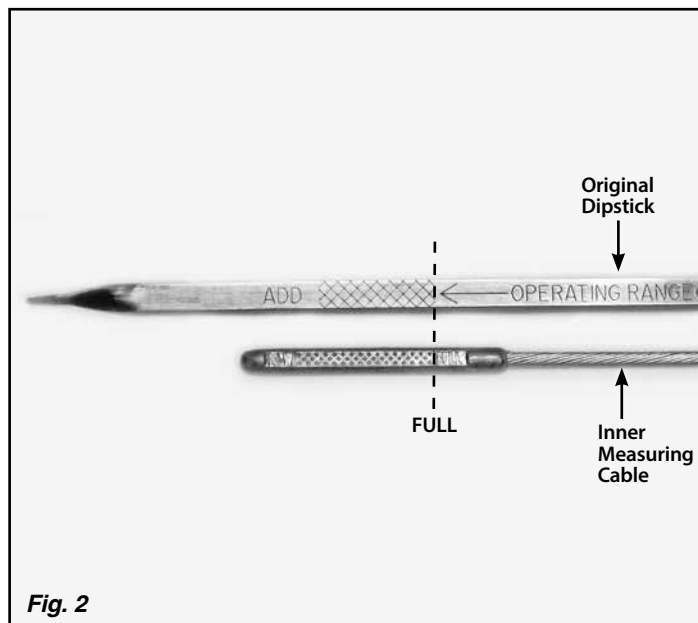

Fig. 2
Step 4: Lay the inner measuring cable on a flat surface, and lay your original dipstick beside it. Align the "FULL" mark on the new inner measuring cable with the "FULL" mark or the top of the "OPERATING RANGE" on your original dipstick. Fig. 2